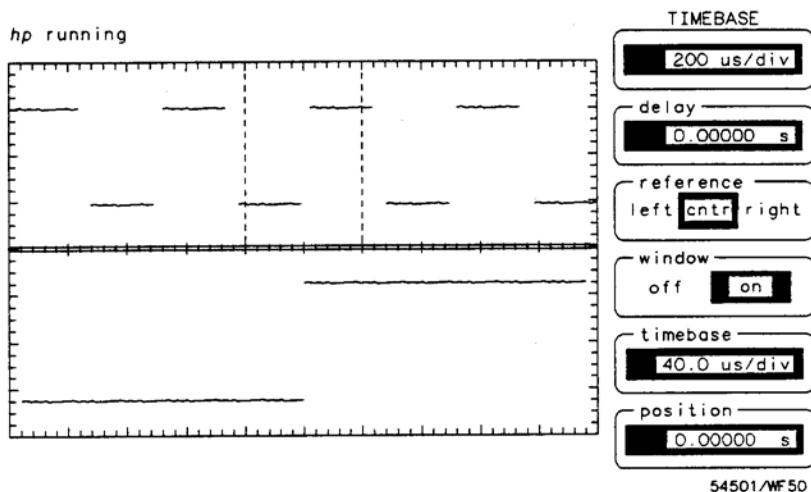

Figure 4-3. Input Signal with Window Turned On
- Set the window timebase to 40  $\mu\text{s}/\text{div}$  (see Figure 4-3).